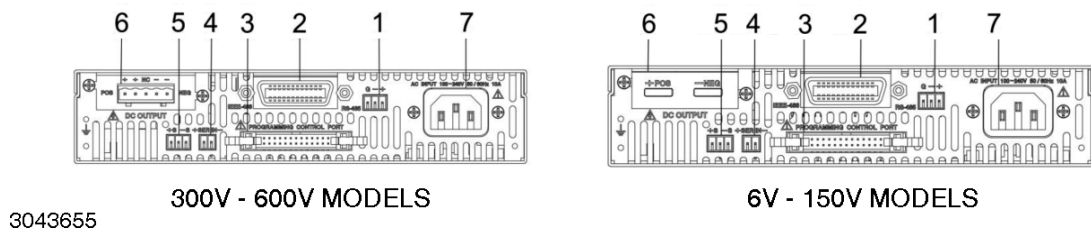

FIGURE 2-1. KLN 750W SERIES REAR PANEL
b) Rear Panel: Refer to Figure 2-1 and Table 2-1.
Refer to Figures 2-1 and 3-1 for location of operating controls and electrical connections. Tables 3-1 and 3-2 explain the functions of operating controls/indicators and keypad keys, respectively. Refer to PAR. 3.2 for a description of basic operating techniques.